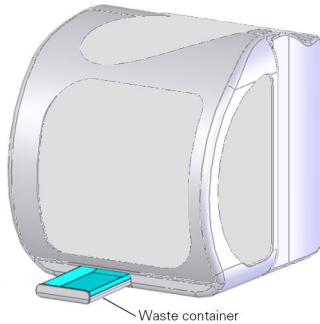

Figure 12-2: Waste Container for the Octet[®] Instrument
1. Press on the container to open it (Figure 12-2).